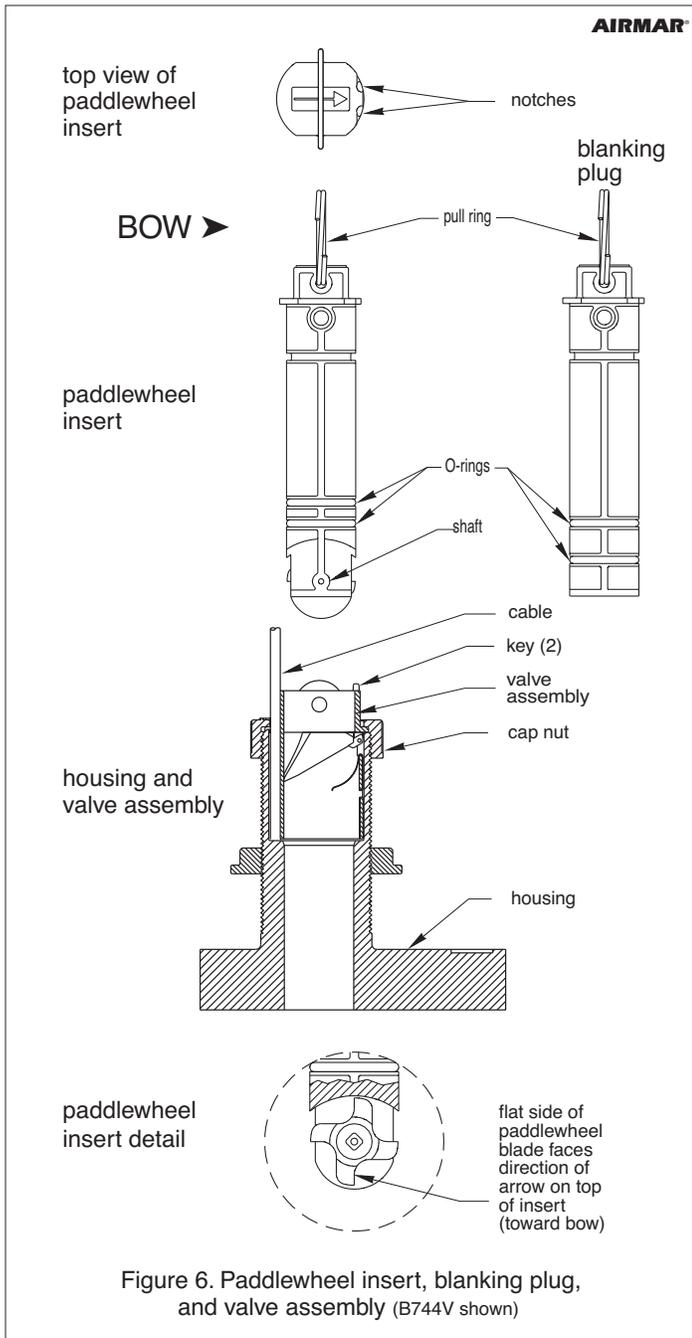

Figure 6. Paddlewheel insert, blanking plug, and valve assembly (B744V shown)
1. Attach one pull ring to the paddlewheel insert. Attach the second pull ring to the blanking plug (see Figure 6).
The multisensor incorporates a self-closing valve which minimizes the flow of water into the vessel when the paddlewheel insert is removed. The curved flap valve in the valve assembly is activated by both a spring and water pressure. The flap valve is pushed upward to block the opening, so there is no plume of water into the boat (see Figure 6).
- Inspect the O-rings on the blanking plug and lubricate them with silicone lubricant or petroleum jelly (Vaseline®) (see Figure 6).
- With the arrow on the top pointing forward, slide the blanking plug into the housing until it is fully seated. Secure it with the retaining pin, safety ring, and safety wire (see Figure 6).
1. Using the new paddlewheel shaft, push the old shaft out about 6mm (1/4"). With pliers, remove the old shaft (see Figure 6).
1. Inspect the O-rings on the blanking plug and lubricate them with silicone lubricant or petroleum jelly (Vaseline®) (see Figure 6).
5. To reinstall the valve assembly, inspect the O-rings on the paddlewheel insert and lubricate them with silicone lubricant or petroleum jelly (Vaseline®) (see Figure 6).